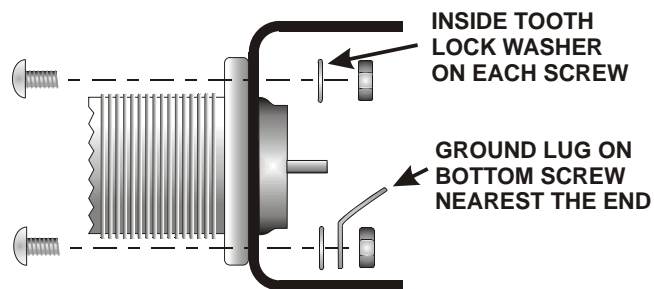

Figure 39. Mounting the Antenna Connector J1 on the Back Panel.
- Mount antenna connector J1 on the cabinet back panel using four 5/16" 4-40 pan head zinc or stainless steel screws, lock washers, nuts and one ground lug as shown in Figure 39. Be sure the ground lug is on the lower screw nearest the end of the back panel and faces upward as shown. The antenna connector is an S0-239 (UHF) connector on the XV50 transverter, and a type "N" connector on the XV144 and XV222 transverters.